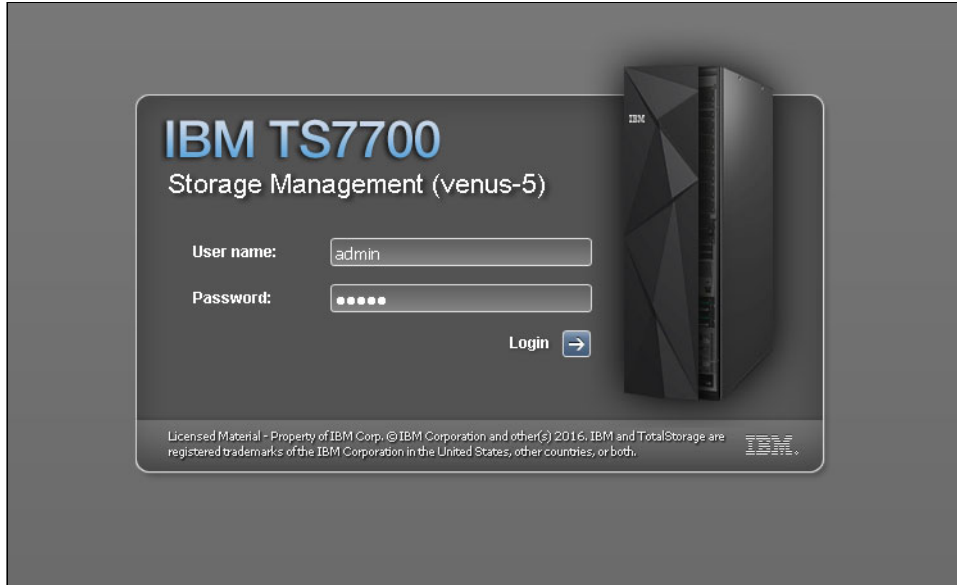

Figure 9-4 TS7700 MI login
5. The login window for the MI displays as shown in Figure 9-4. Enter the default login name as `admin` and the default password as `admin`.